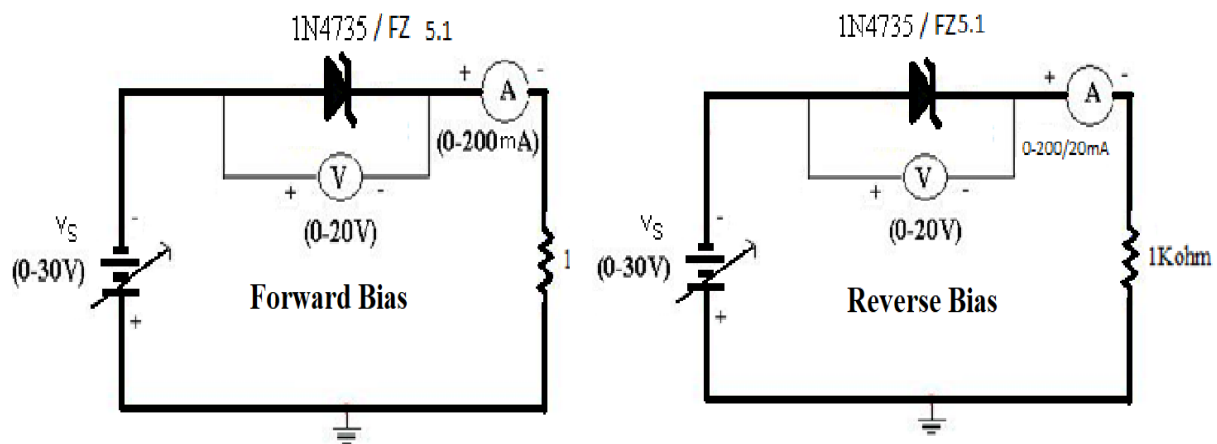

Figure 2.6: Circuit Diagram
- Connect the circuit as shown in Figure 2.6.
- Connect the Zener diode in reverse bias as shown in the fig.2.6. Vary the voltage across the diode in steps of 1V from 0 V to 6 V and in steps 0.1 V till its breakdown voltage is reached. In each step note the current flowing through the diode